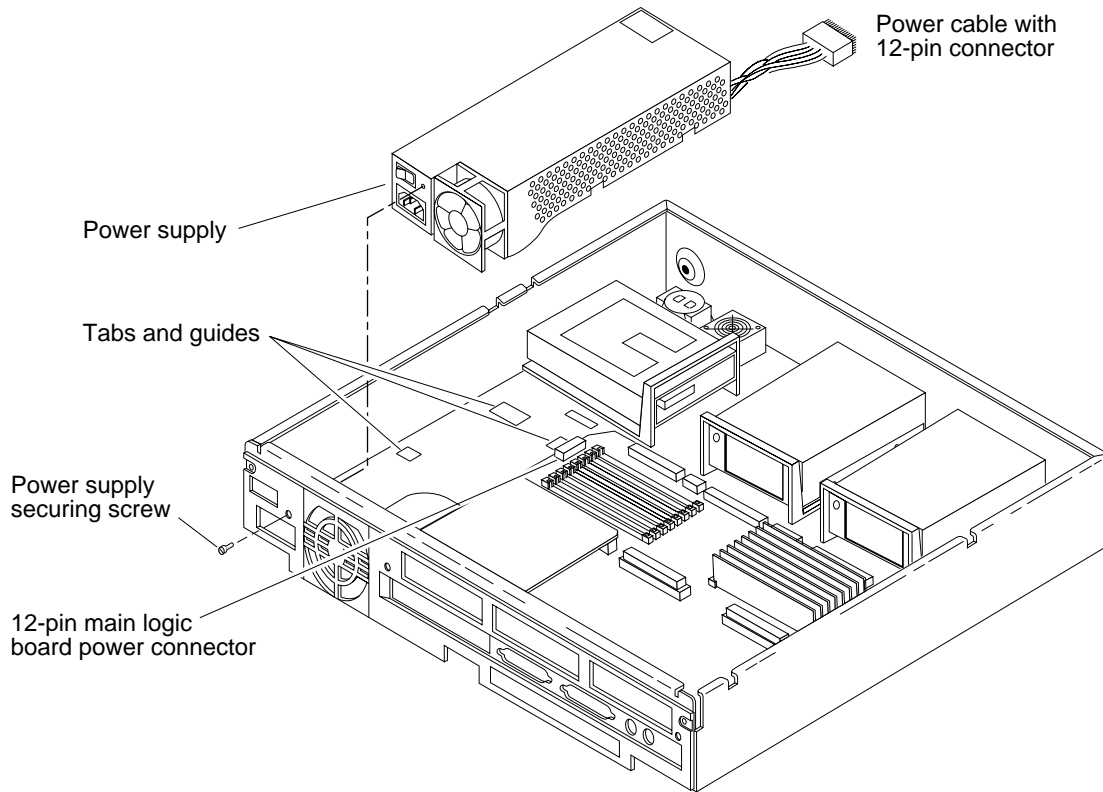

Figure 4-9 Removing and Replacing the Power Supply
The power supply is a self-contained metal assembly located just behind the diskette drive (see Figure 4-9). The recess in the bottom of the chassis is for the fan that is built into the power supply.
5. **Remove the screw from the back panel (Figure 4-9).**
- 1. Align the new power supply correctly as shown in Figure 4-9 with the tabs and guides in the bottom of the chassis.**
The connector is keyed so that the power cable will fit only one way (see Figure 4-9).
- 4. Secure the power supply to the chassis by installing the screw through the rear panel of the chassis (see Figure 4-9).**